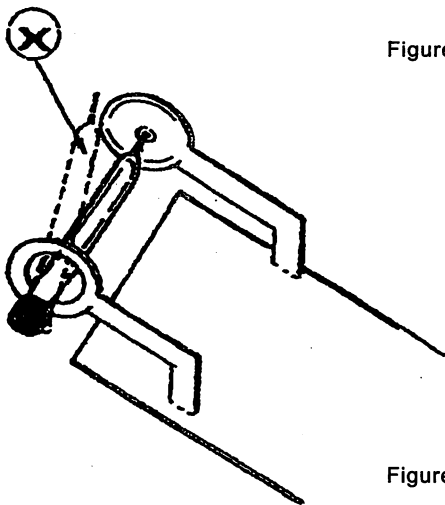

Figure 10
3. Insert the new lamp straight into the timing light. Make sure the metal pin of the lamp touch the center of the inner disc. (See Figure 10.)